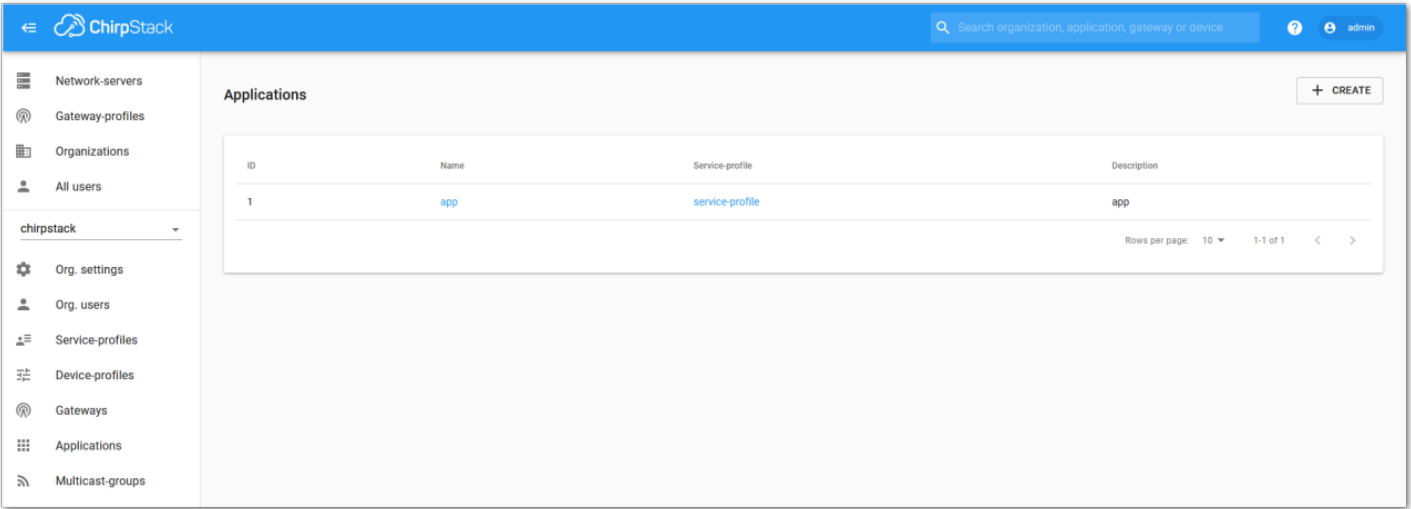

Figure 197: Application Section
2. Go to the Application section, as shown in **Figure 197**.